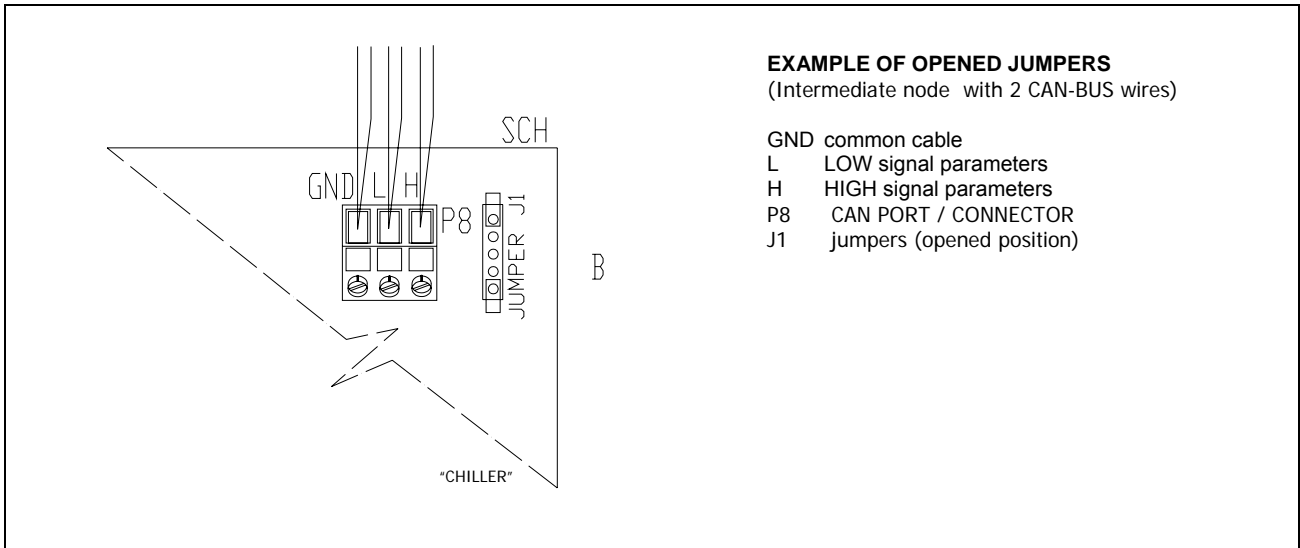

Figure 24– DETAILED EXAMPLE OF THE CONNECTION OF TWO CAN-BUS WIRES WITH THE ELECTRONIC CONTROL BOARD
- 3c** Connect 3 conductors of the 2nd CAN-BUS wire, respecting the signal/color indications as in Table 17, page 45 with the other 3 inlets H, L, GND of the other connector as in Figure 24, pag 47.
- 2nd CASE: on the orange connector of CAN Port, there are 6 conductors (terminal nodes): in this case, the 2 Jumpers existing beside the orange connector of CAN Port should be adjusted as indicated in Figure 24, page 47 (details J1).